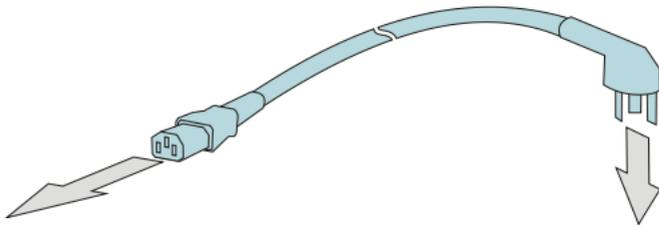

Figure 15: Connect the power supply
- Connect the power supply cable, refer to Figure 15 below.